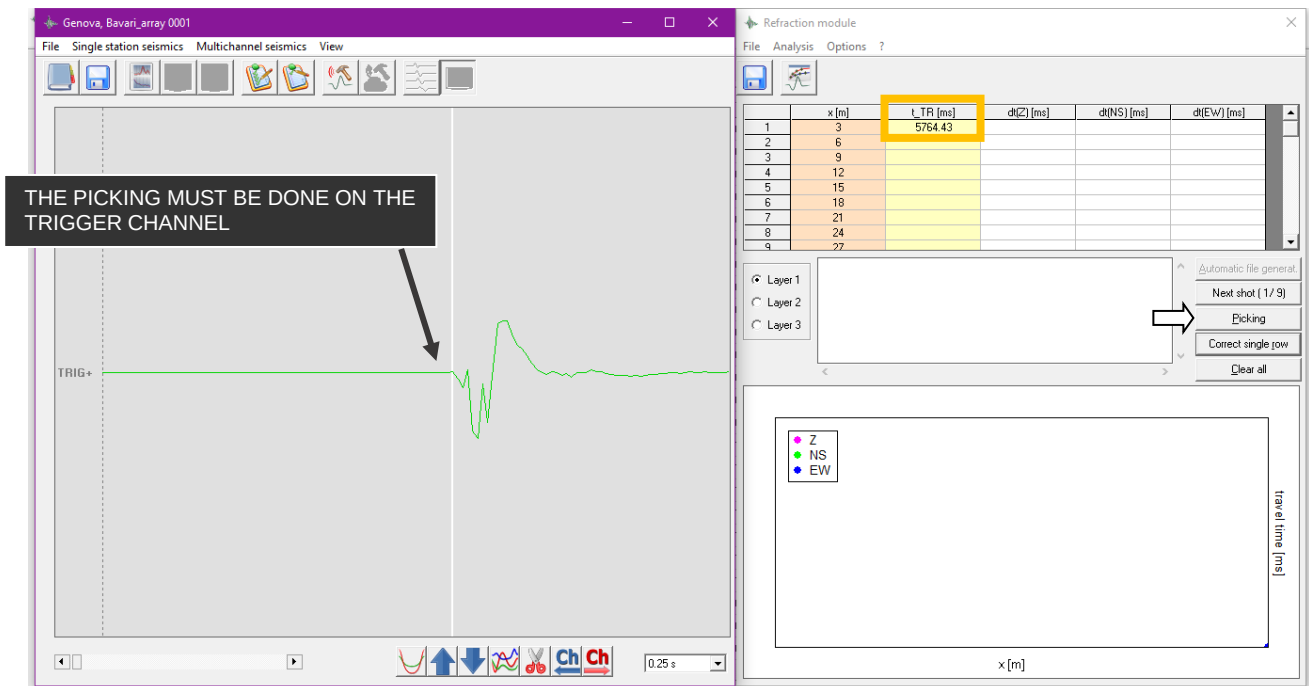

Figure 10. Selection of the shot time (vertical white rose line).
- 2) the selection of the first shot time must be made on the Trigger channel, which is identified by the TRIG+ tag (see Figure 10). Use the buttons (amplification, number of channels displayed, channel shift) at the bottom of the window to achieve the best readability,
- 4) a picking is properly completed when row t_i and t_{TR} (Trigger time) are filled (yellow box in Figure 10).
Should you realize that a previous shot time has been mispicked, left-click the mouse on the related row in the shot time table (see Figure 10) and press the button *Correct single row*. The row content will be cancelled and you will be able to redo the picking as described in step 3) above.
To display the multichannel records, click the *Picking* button (white arrow in Figure 10). A new window will open as in Figure 12.